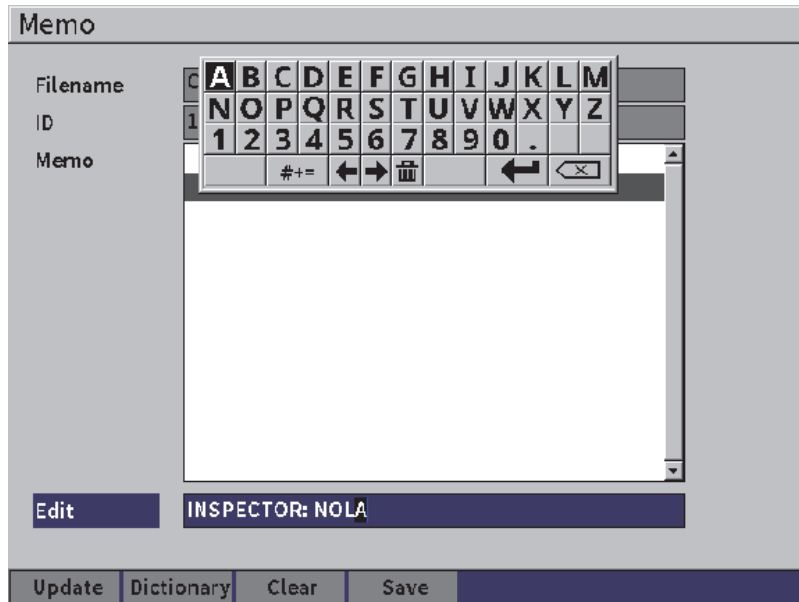

Figure 9-23 Memo Dictionary page — Inserted info
7. Enter characters (up to 32) using the virtual keypad, adjustment knob, and the Enter key (see Figure 9-23 on page 147).